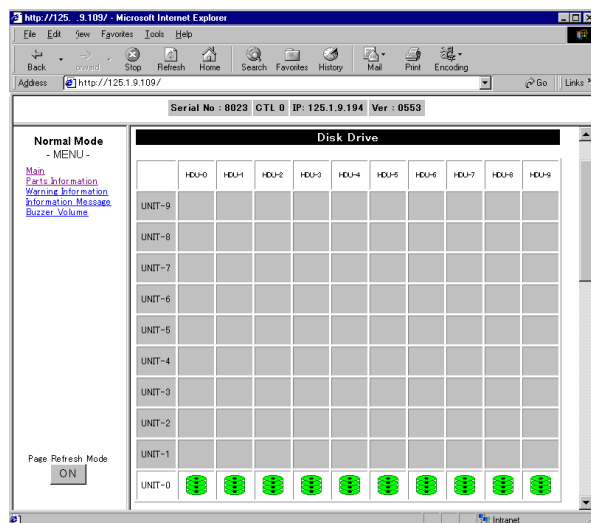

Figure 5.33 WEB Screen (31)
1. If any part fails, its image becomes red. (see figure 5.33, 5.34)